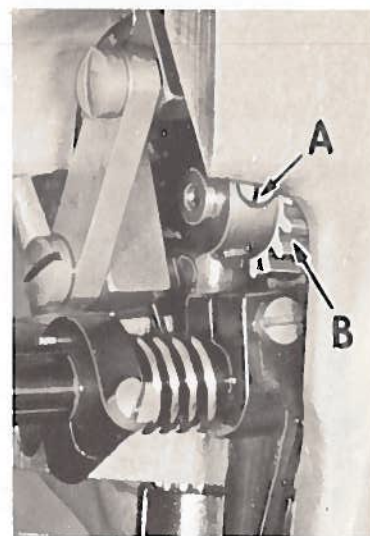

Fig. 4
At this point, the slot in needle vibrating cam (B) should be on right side of cam center, and in a vertical position. To make this adjustment, loosen accessible set screw (A, Fig. 4) in gear (B), disengage stop motion lever, and rotate pulley until second set screw in gear (B) is accessible. Loosen this screw and return to stop position. With a screwdriver, align slot in vibrating cam as per above. Tighten gear set screws.